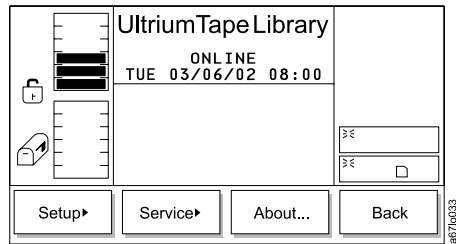

Figure 215. Main Menu (alternate screen)
1. From the Main Menu's initial screen, press the button below the **More** softkey. The Main Menu's alternate screen displays (see Figure 215 on page 171).